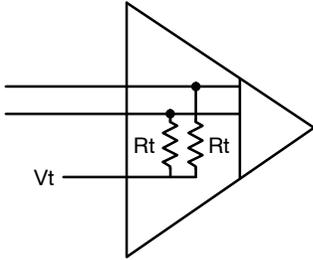

Figure 6. Internal Termination Combo Pin
1. Internal Termination Combo Pin (see Figure 6)
When the Internal Termination Combo pin, V_t , of Figure 6 is connected to a V_{TT} sinking power supply ($V_{CC} - 2.0$ V) and a signal, V_{IH} to V_{IL} , is applied, the internal resistors will draw current according to the equations: